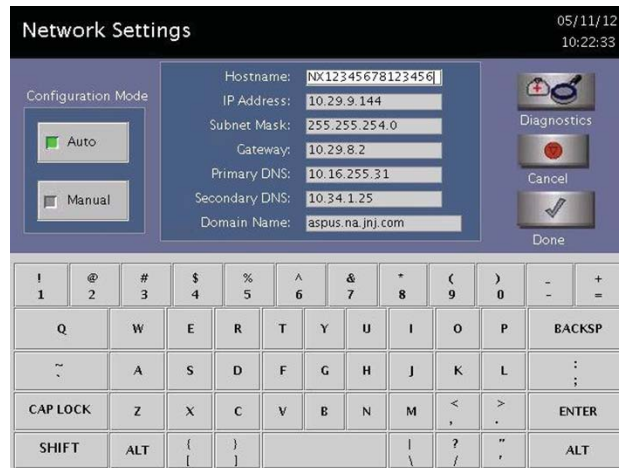

Figure 62. Network Settings 1. The data shown in this screen's field is for context.
4. Verify the network settings of screens 1 and 2 (see Figures 62 and 63) on the sterilizer match the computer server settings.